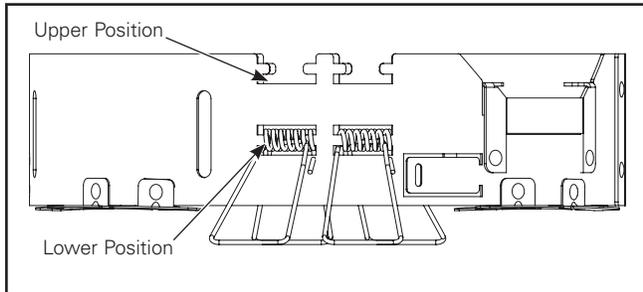

Figure 31.
- Retrofit ring can be adapted to various ceiling thicknesses and plaster frame/housing heights by using different slot locations for mounting springs. HC8R/HC812R ships with springs in upper position for a combined ceiling and housing thickness greater than 1" and no more than 2". For ceiling/housing thicknesses between 0.5" and 1" mounting springs should be moved to lower position (Figure 31).